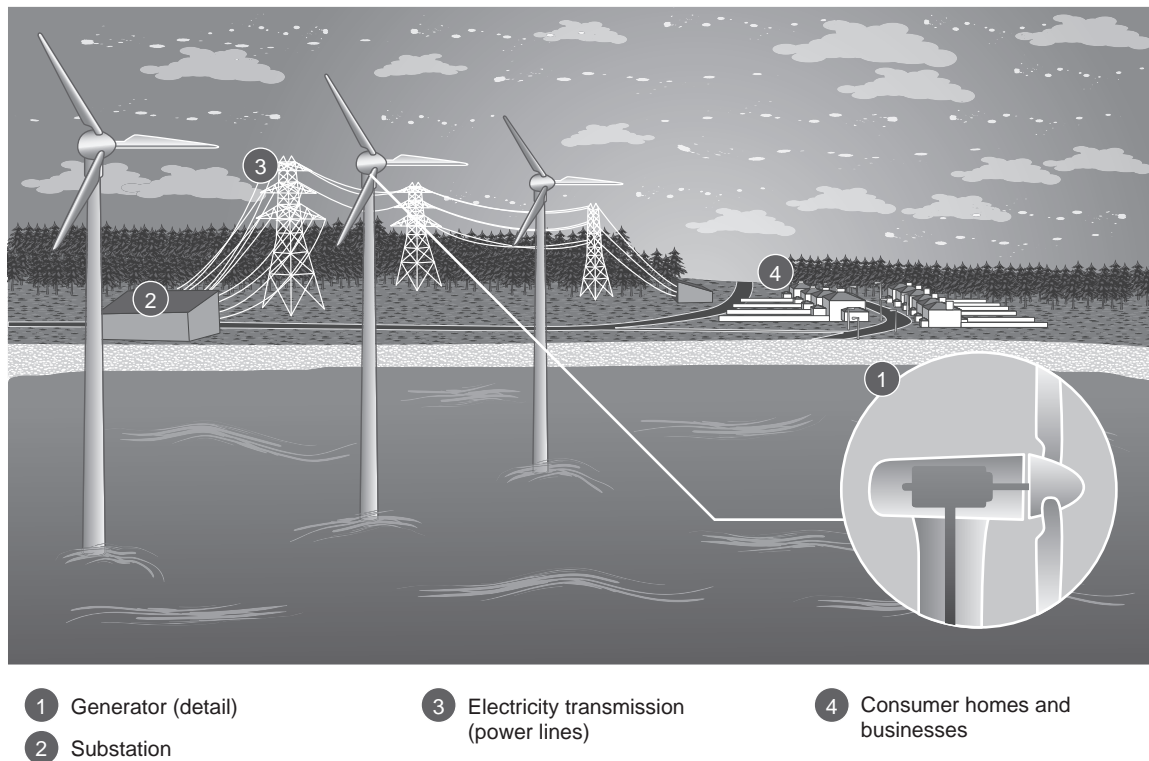

Figure 22.6
With reference to Figure 22.6, a shaft and gearbox connect the rotor to a generator (1), so when the rotor spins, so does the generator. The generator uses an electromagnetic field to convert this mechanical energy into electrical energy.